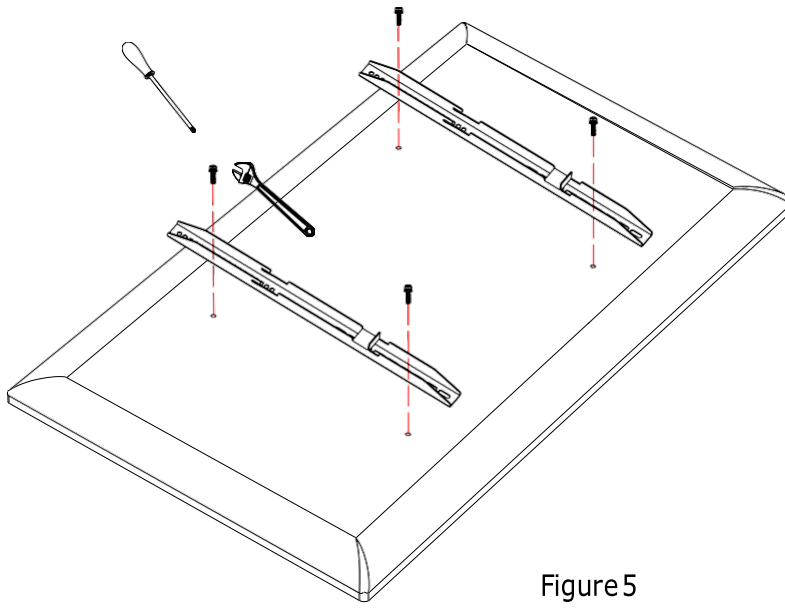

Figure5
Step 5: According to actual demand for using the board, lock hanging strip on the board. (Figure 5)